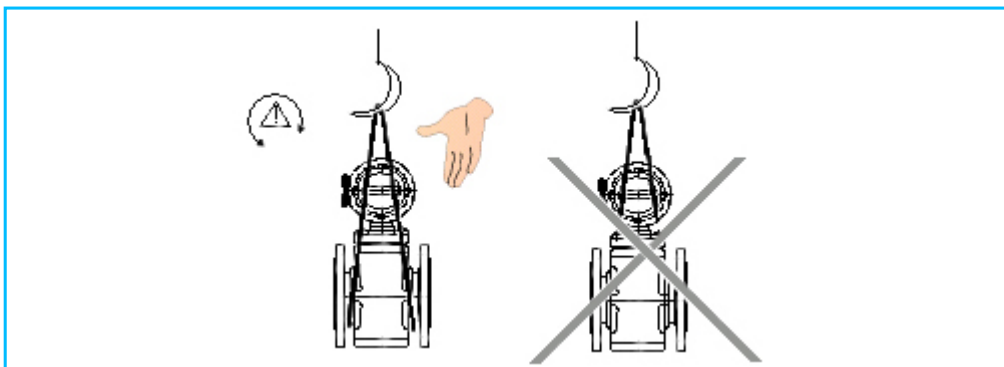

Fig. 2 : Transport of Flanged Instruments \leq DN 300 [12"]
- when transporting flanged instruments \leq DN 300 [12"] please use lifting straps and position them around both process connections (Fig. 2).